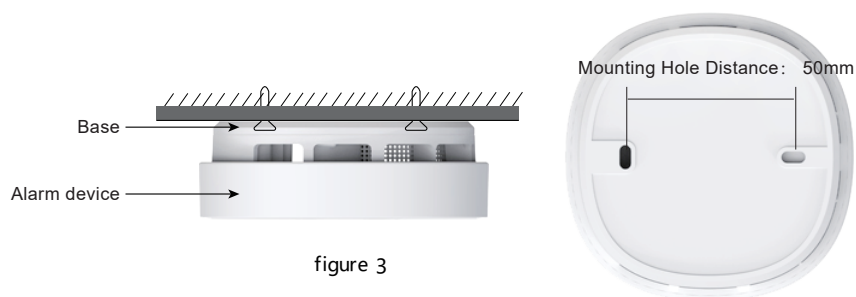

figure 3
- Drill two mounting holes 50mm apart on the ceiling, and fix the base of the detector with expansion plugs and self-tapping screws; as shown in Figure 3.